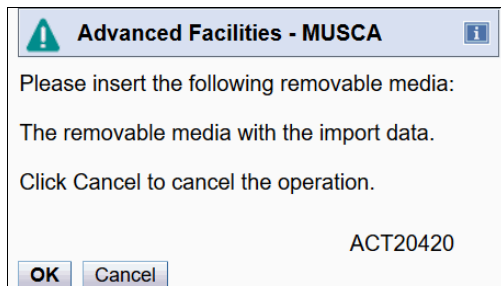

Figure 7-22 Insert media
6. You are prompted to insert the media (see Figure 7-22). Click **OK**.